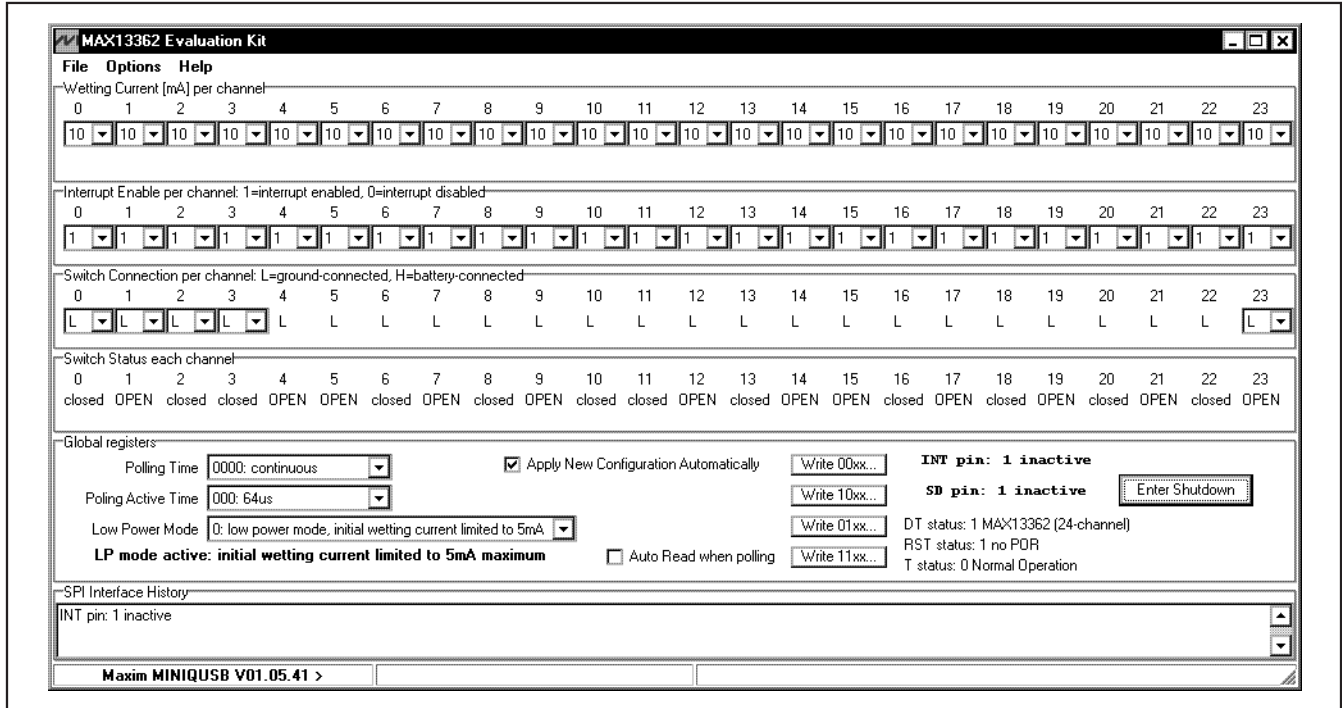

Figure 1. MAX13362 EV Kit Software Main Window
- 7) Start the MAX13362 EV kit software by opening its icon in the **Start | Programs** menu. The EV kit software main window appears, as shown in Figure 1.
The software automatically performs SPI transfers to update the device, unless the **Options | Polling** menu item has been unchecked. The main window of the evaluation software is shown in Figure 1.